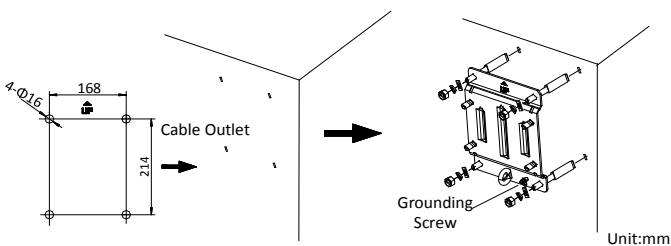

Figure 2-4 Install the Installation Plate
2. Insert the flag washer and the spring washer. Then tighten the four screws to secure the installation plate as shown in Figure 2-4.